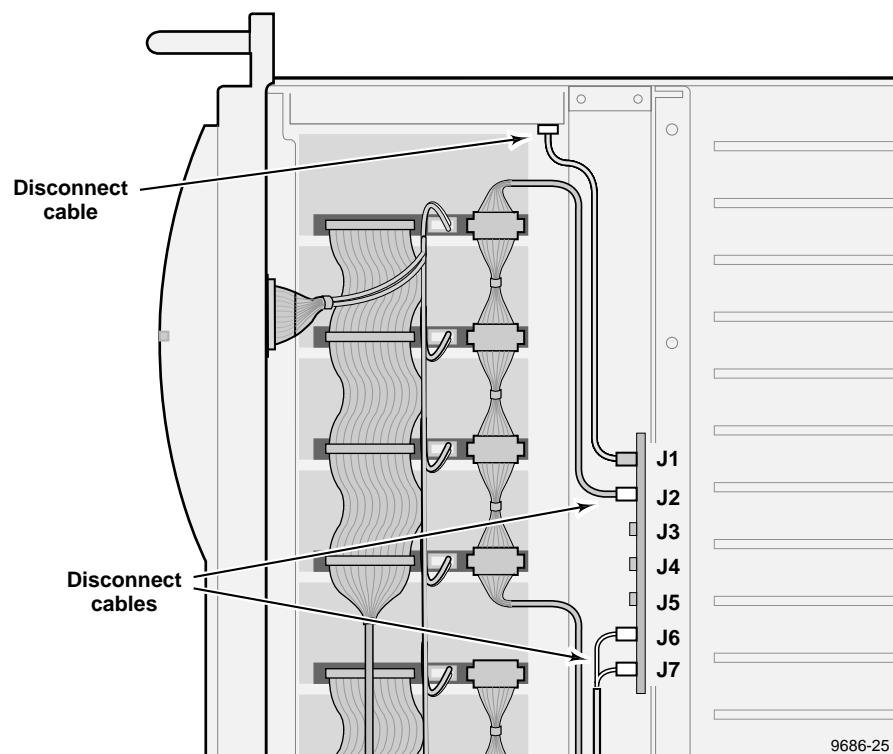

Figure 9. Disconnecting the fan board cables
1. Disconnect the cables from J2, J6, and J7 on the fan board. See Figure 9. (Cables to J1, J3, J4, and J5 need not be disconnected.)
2. At the distribution board, disconnect the power cable running from the fan board to the distribution board as shown in Figure 9.